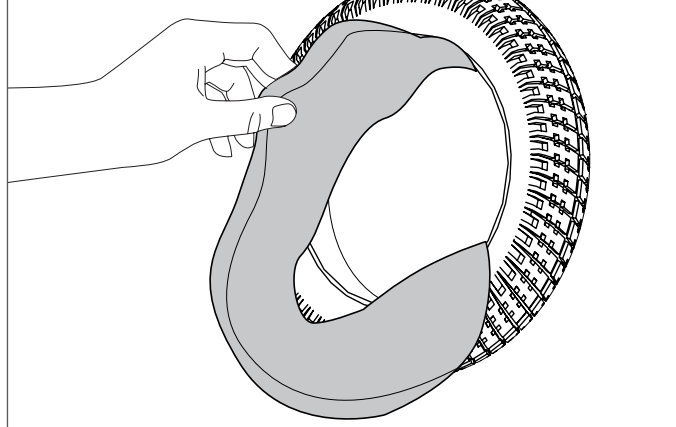

Fig. 8.9
- Ensure all parts are clean before reassembling, (Fig.8.9).